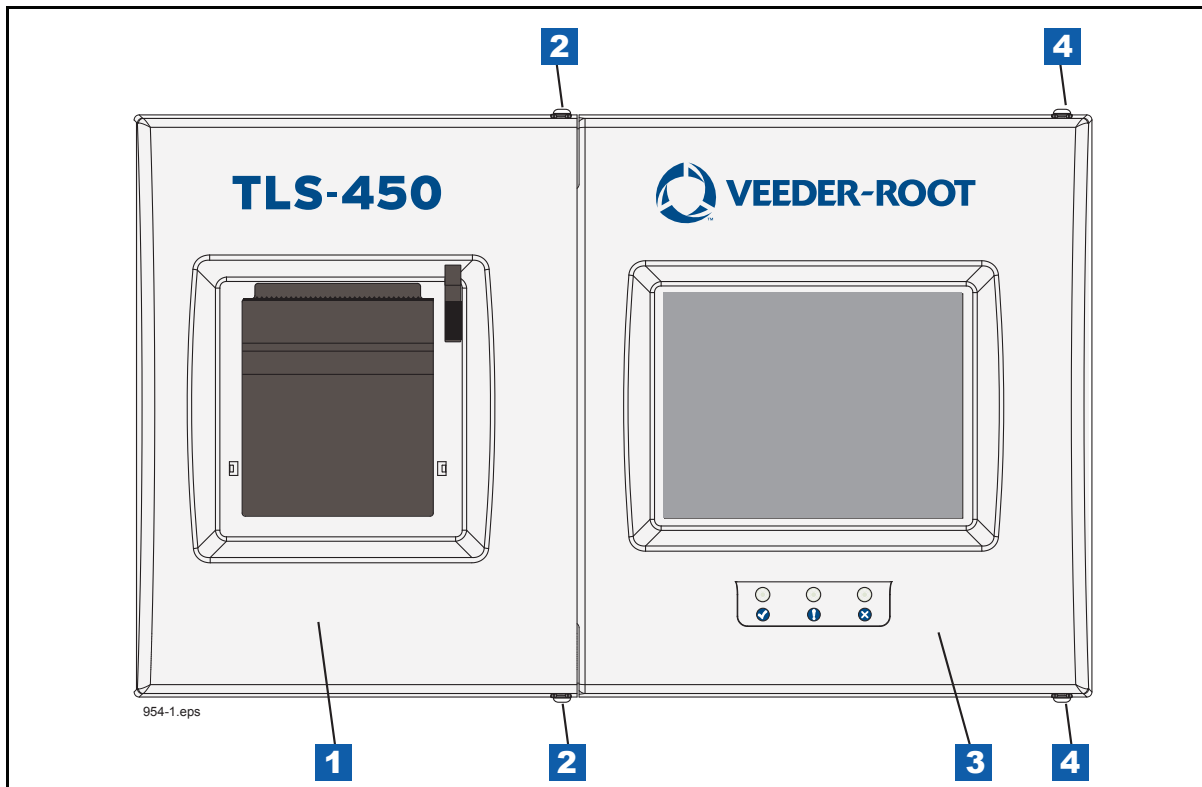

Figure 6. Front doors
2. Open both front doors of the console (see Figure 6).
LEGEND FOR NUMBERED BOXES IN Figure 6
2. Referencing Figure 6, open the left and right doors of the console.
2. Using a T-15 Torx driver, remove the two screws (see item 2s in Figure 6) and open the left front door of the console.